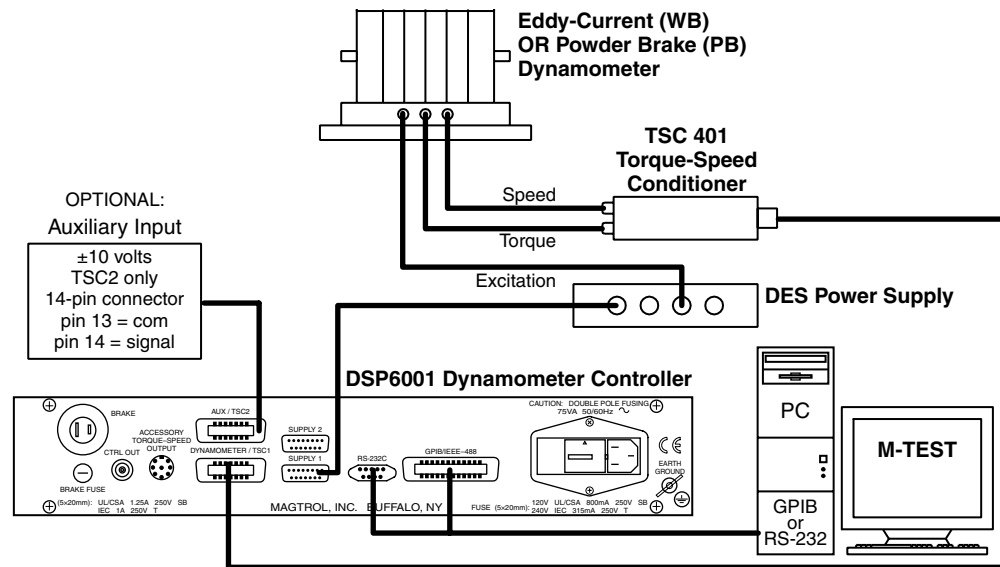

Figure 3–23 Eddy-Current or Powder Brake Dynamometer with Auxiliary Instrumentation Setup
10. Press SHIFT to complete the initial setup and return to the new main menu. See Figure 3–13 TSC1 with TM2XX Output Menu.